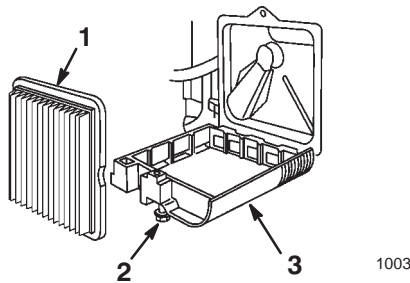

Figure 13
- Loosen the screw that secures the air filter cover to the engine (Fig. 13).
- Remove and discard the old paper air filter (Fig. 13).